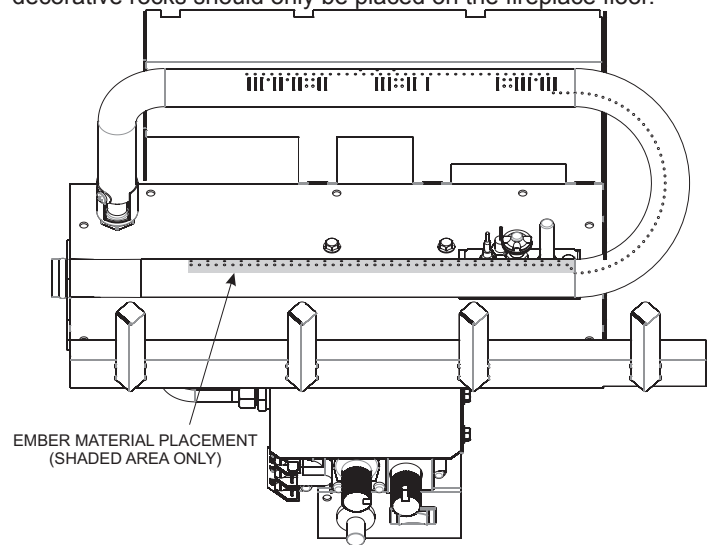

Figure 72
4. Place the ember material pieces on the front burner port area. **See Figure 72.**